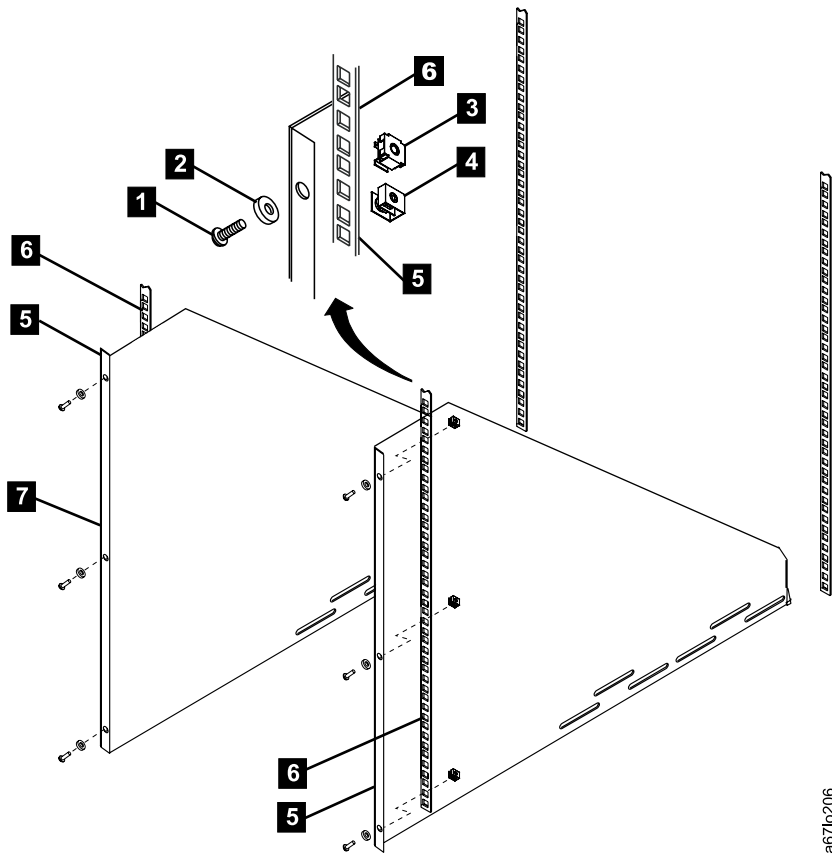

Figure 15. Installing the front mounting brackets
- Place one of the front mounting brackets (see **7** in Figure 15) next to the rail **6**. Using the bracket as a template, install three cage nuts **3** (or clip nuts **4**) into the holes in the rail that are in line with the holes in the mounting bracket. Repeat this step for the second front mounting bracket.
**Note:** Figure 15 shows both clip nuts and cage nuts, but you must install only one type of nut.